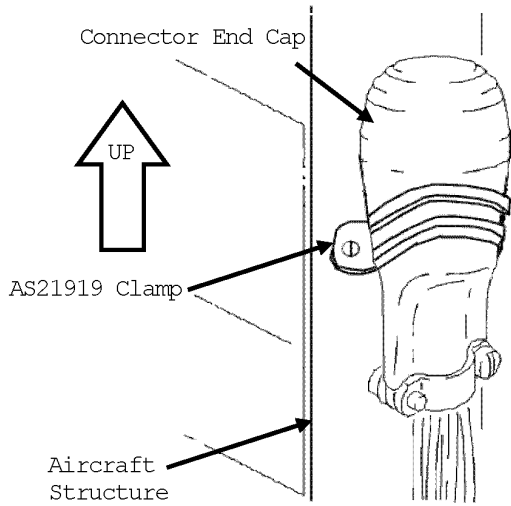

Figure 5. Connector Secured to Structure Using AS21919 Clamp Connector End Cap
(a) Secure connector in vertical position using AS21919 cushioned clamp (Figure 5) such that the identification tag is exposed and can be readily seen. If hardware attachment hole in adjacent structure is not available, do not drill into structure without specific direction and approval from cognizant engineering authority.
b. For Typical, Non-SWAMP Applications. Secure the protected connector in accordance with paragraph 10a(6), and Figure 5 thru 8.